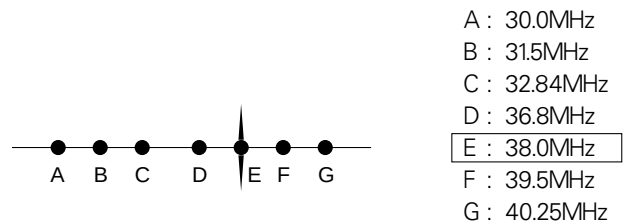

Fig.2 : VCO waveform on Alignment Scope
- 2) Adjust Video Detector Coil (LP8) so that a waveform on Alignment Scope is the same as below Fig.2.